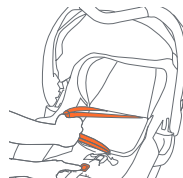

Fig. 33-1
7. From the front of the seat, pull the Harness Straps out through the harness slots in the adjustable back and seat pad (Fig. 33-1).